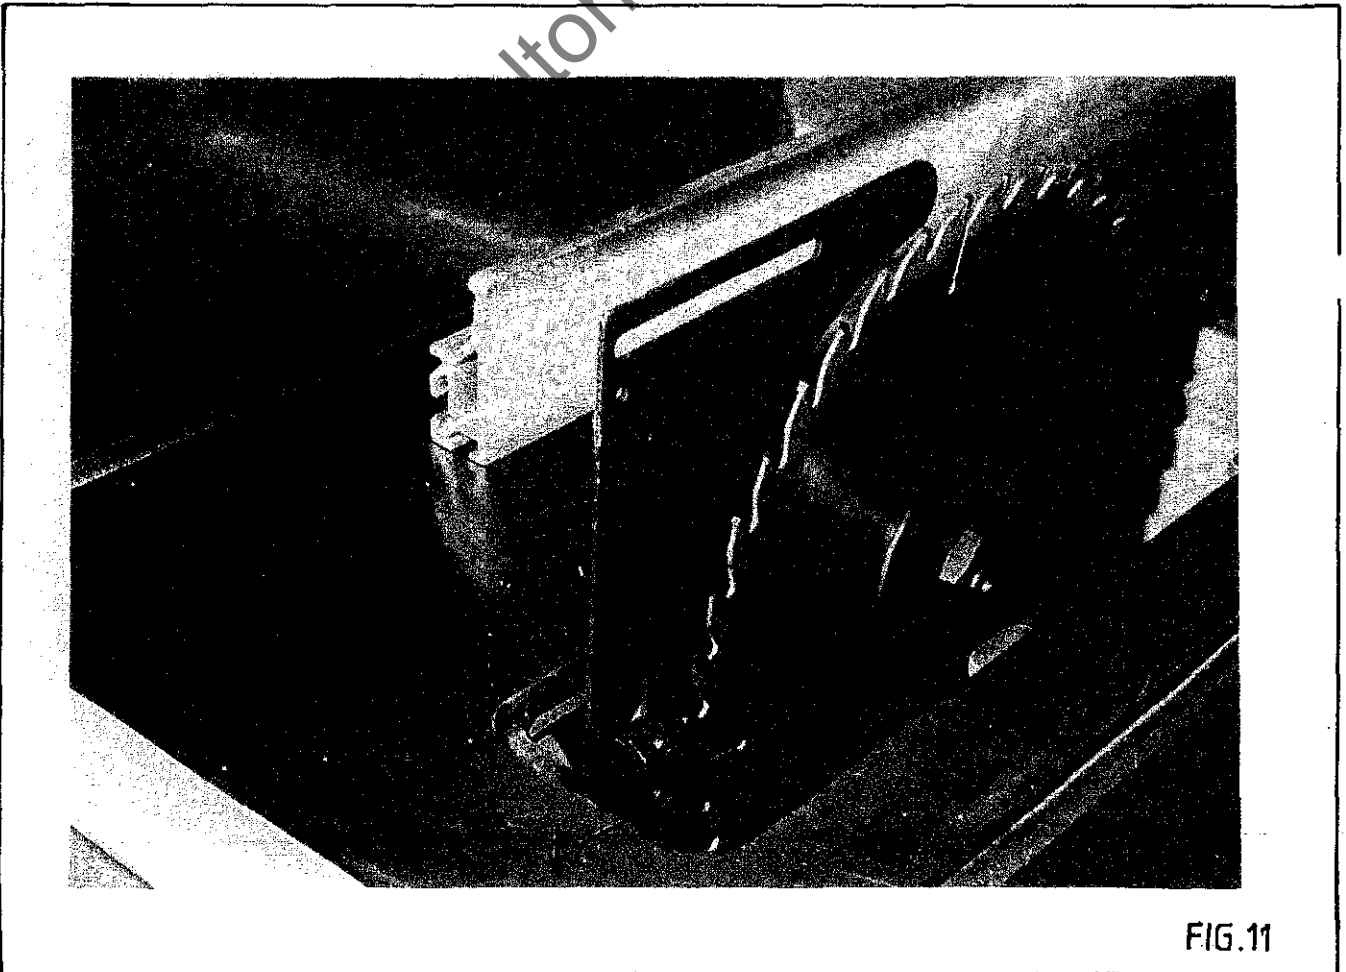

FIG.11
- c) Loosen M16 locking screw "F" FIG.11 and move riving knife "G" to correct position.